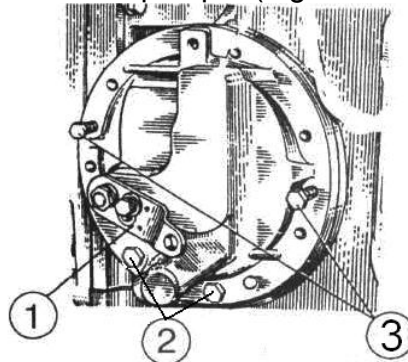
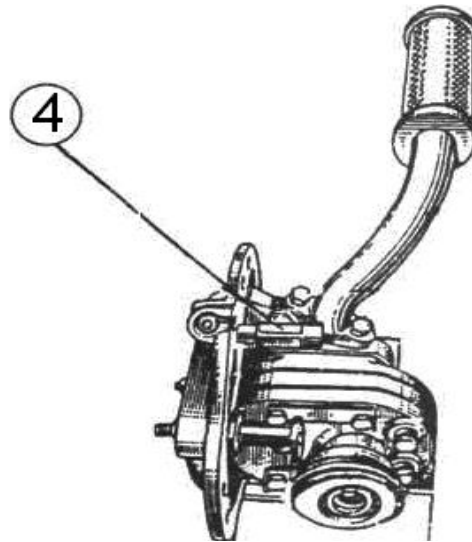

Figure 4.56
Figure 4.57
b) move lever for switching on transmission pump 1 (Figure 4.56) clockwise to the end;
c) unscrew fastening bolts 2 (Figure 4.56), using dismantling bolts 3 remove pump drive 4 (Figure 4.57) as an assembly;